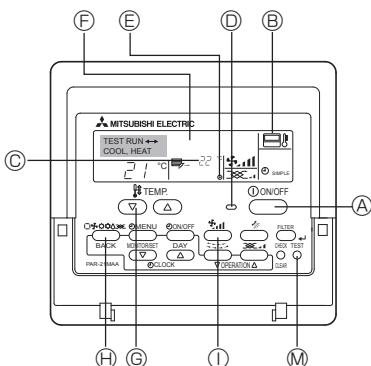

Fig. 7-1
7.2.1. Using wired remote controller (Fig. 7-1)
- ① Turn on the power at least 12 hours before the test run.
- ② Press the [TEST] button twice. ➔ "TEST RUN" liquid crystal display
- ③ Press the [Mode selection] button. ➔ Make sure that wind is blown out.
- ④ Press the [Mode selection] button and switch to the cooling (or heating) mode. ➔ Make sure that cold (or warm) wind is blown out.
- ⑤ Press the [Fan speed] button. ➔ Make sure that the wind speed is switched.
- ⑥ Check operation of the outdoor unit fan.
- ⑦ Release test run by pressing the [ON/OFF] button. ➔ Stop
- ⑧ Register a telephone number.